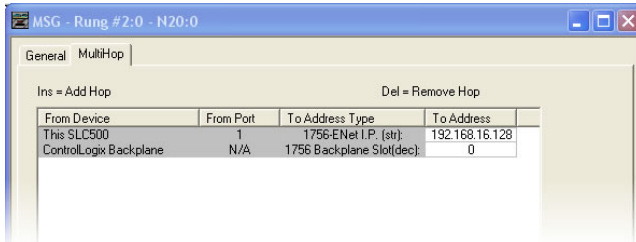

Figure 104: MSG Configuration, "MultiHop" Tab
- e) Under the "MultiHop" tab settings, set the "To Address" in the first row to the drive's IP address, and the "To Address" in the second row to 0. Refer to Figure 104.